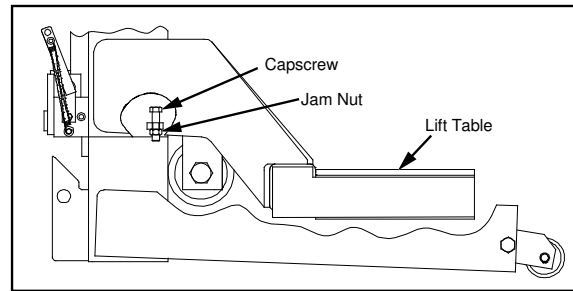

Fig. 13: Lift table clearance adjustment
3. Loosen the jam nut and turn the cap screw a few turns in the required direction. Clockwise raises the lift table, counterclockwise lowers it. (See Fig. 13 for identification.)